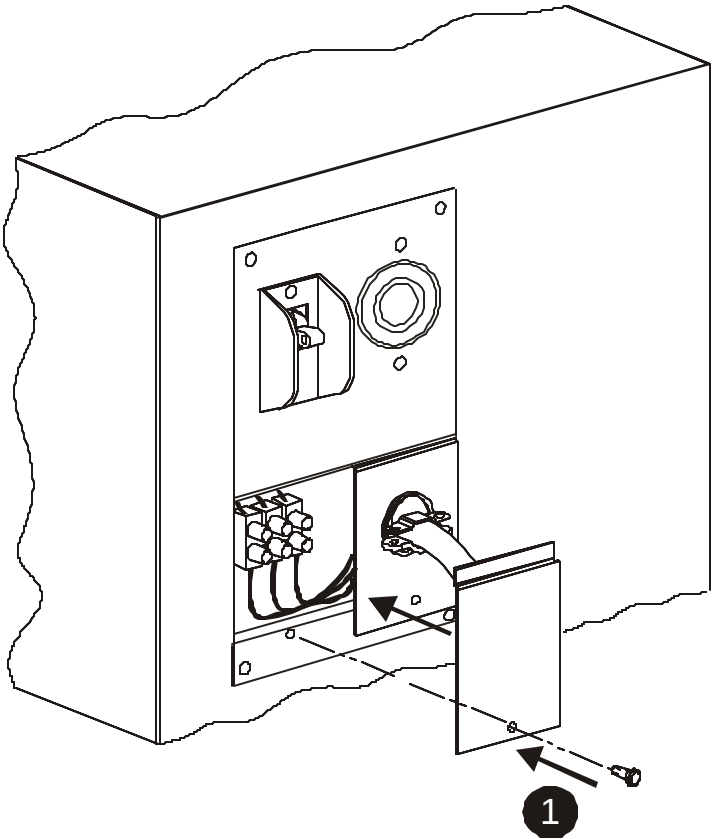

Figure 3.6 Install Access Panel
- 1. Install Access Panel as shown in Fig. 3.6